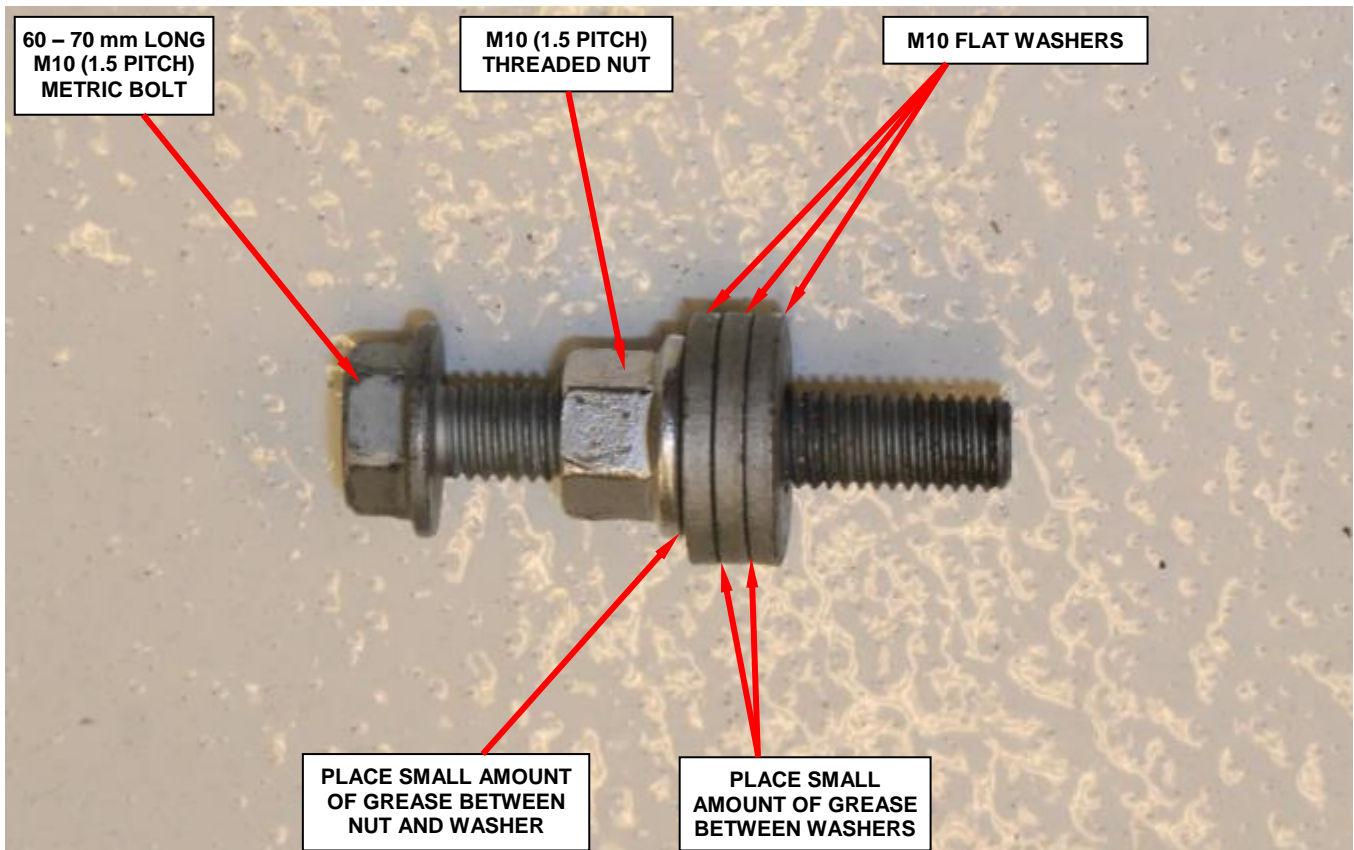

Figure 27 – Assembly Riv-Nut Crimp Tool
1. Obtain the following components to create a riv-nut crimping tool (Figure 27):
2. Assembly the tool as shown in Figure 27.
NOTE: Apply a small amount of grease between the flat washers and on the surface of the nut that contacts the flat washer (Figure 27).
4. Insert the Riv-nut installed on the tool into the hole (Figure 27).